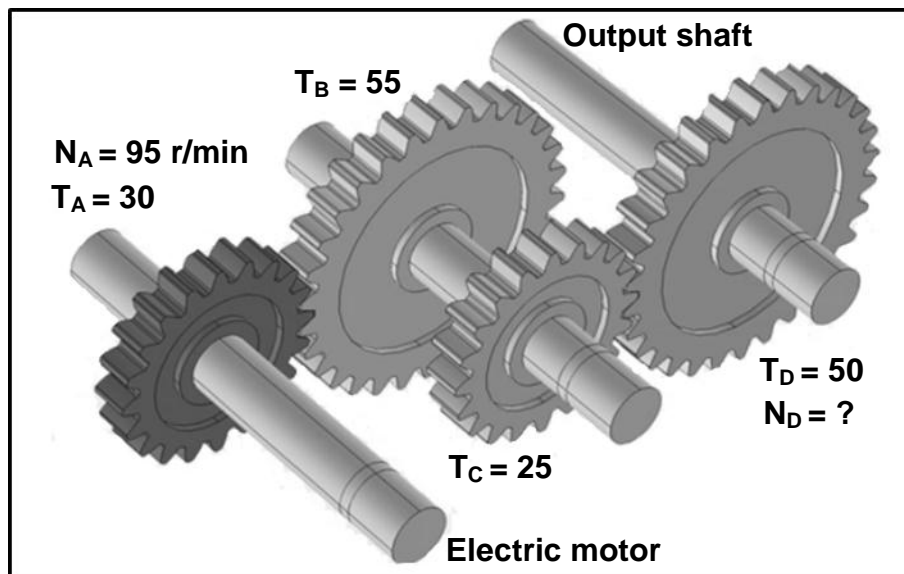

FIGURE 11.6
- 11.6 FIGURE 11.6 below shows a gear drive system on the shaft of an electric motor.